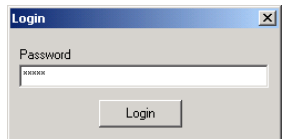

Figure 9.
- 8.7 In the **Login** window (Fig. 9) enter default password *admin*. After pressing **Login**, the program IPcomControl is started.